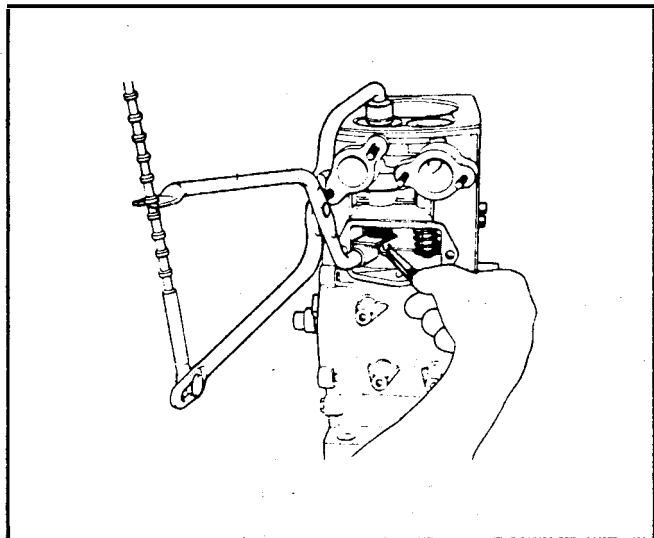

Figure 96
3. Install the valve springs, spring retainers and valve keepers. See Figure 96.